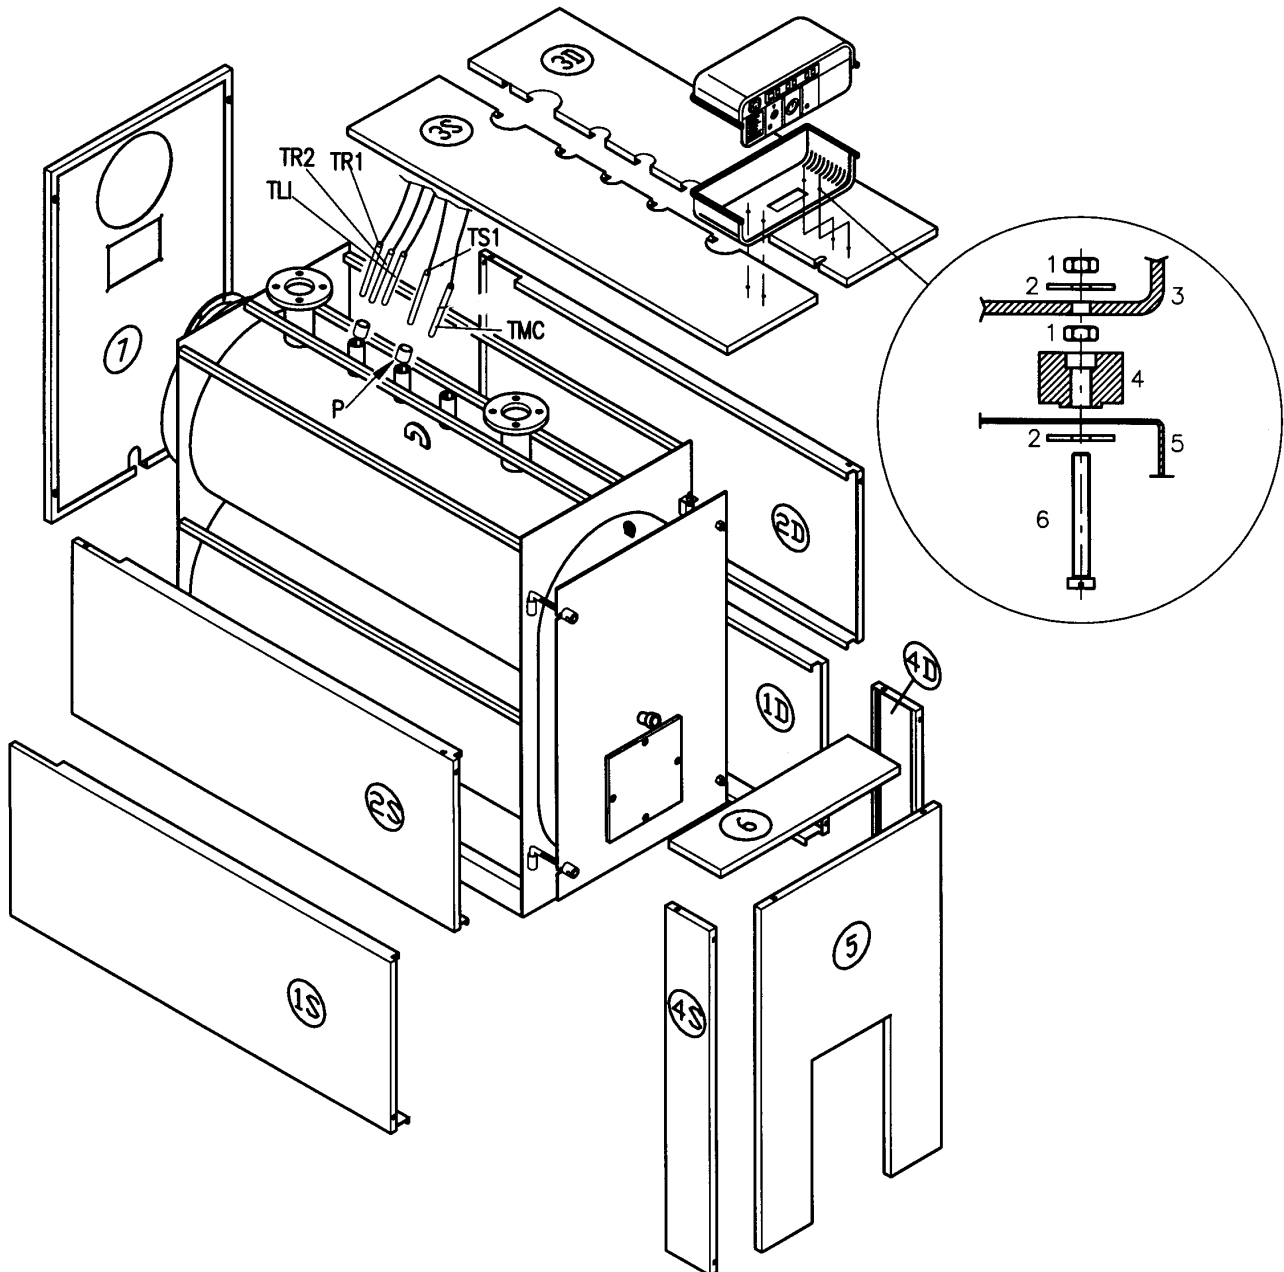

Fig.12
4.5. AXS BOILER CASINGS (Fig. 12)
- e) Fit the panels (4S) and (4D), connecting them to the side panels by means of the brackets; fit the front panel (5) connecting it to panels (4S) and (4D). Close the manhole casing by fitting the upper panel (6).
- f) Fit the back panel (7), connecting it to the side panels by means of the brackets.